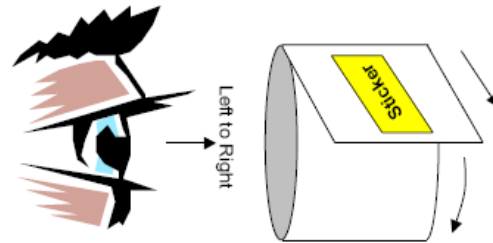

Fig. 3
- Labels should be wound counter-clockwise with reading direction as per Fig. 3